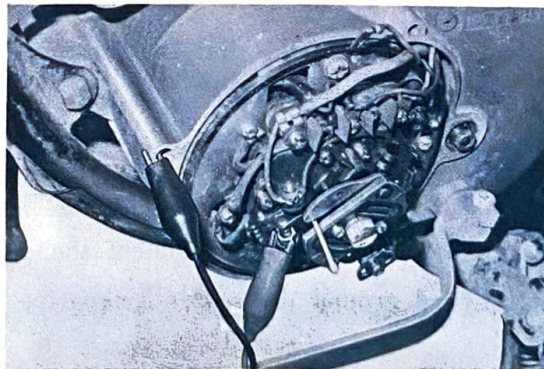

Fig. VII-5-17
- d) Wedge the governor, fully open. Then loosen the breaker plate holding screws, and turn the breaker plate. When the points just start to open (the testing lamp lights up), tighten the holding screws. (Do not fully loosen the breaker plate holding screw, because the breaker plate tends to shift its position). Turning the breaker plate in the engine rotation direction causes ignition timing to delay, and turning it in the opposite direction advances ignition timing. (Figs. VII-5-17 and 18)